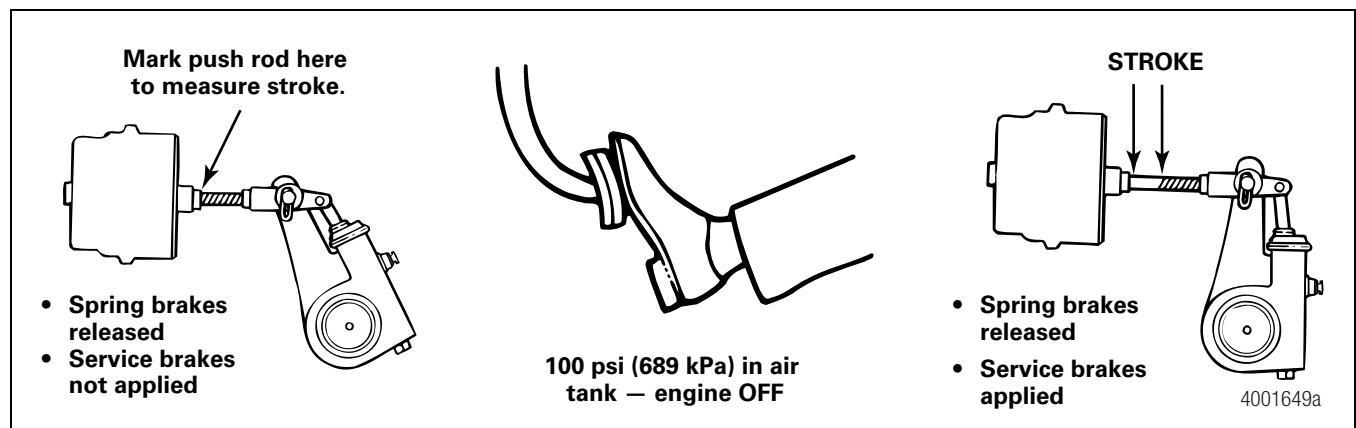

Figure 11.11
4. With the brakes released, mark the push rod where it exits the chamber. Figure 11.11. Measure and record the distance.